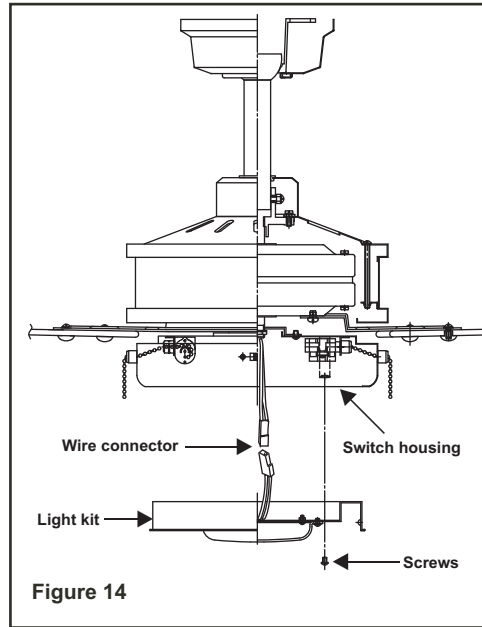

Figure 14
**Step 1.** Remove the 1 of 3 screws from the posts of the switch housing and keep it for future use. Loosen the other 2 screws. (Do not remove) (Fig. 14)
**Step 3.** Place the key holes in the LED light kit over the two screws previously loosened from the switch housing. Turn the LED light kit until the LED light kit locks in place at the narrow section of the key holes. (Fig. 14)
**Step 4.** Securely tighten the two light kit mounting screws previously loosened and the one previously removed. (Fig. 14)